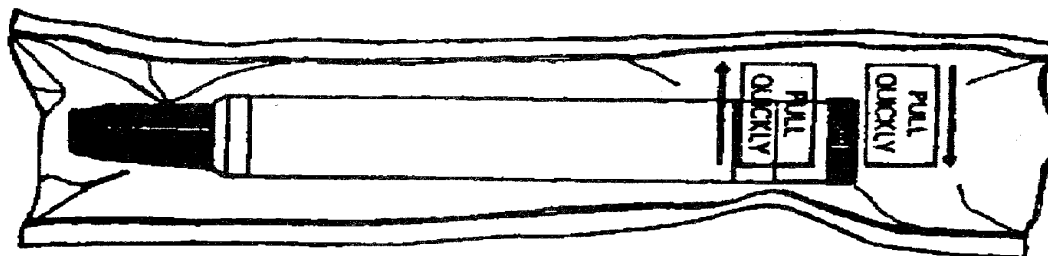

Figure 6-18. Convulsant Antidote for Nerve Agent
c. The CANA (Figure 6-18) is similar to existing autoinjectors but modified to hold a 2-milliliter volume of diazepam. The exterior of the autoinjector will be distinguishable from the NAAK kit by two flanges on the length of the barrel. The autoinjector is packaged in a chemically hardened material. The CANA is a disposable device for intramuscular delivery of diazepam to a buddy who is incapacitated by nerve agent poisoning. It is administered by buddy aid only and is an adjunct to the NAAK kit. The CANA is an individually issued item. See TM 8-288 for further information.